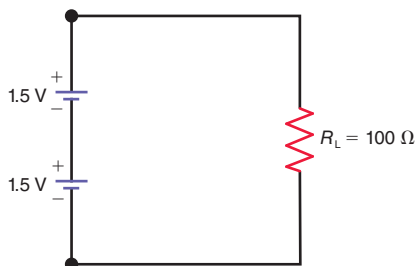

Figure 10-25
10.1 In Fig. 10-25, solve for the load voltage, V_L , the load current, I_L , and the current supplied by each cell in the battery.